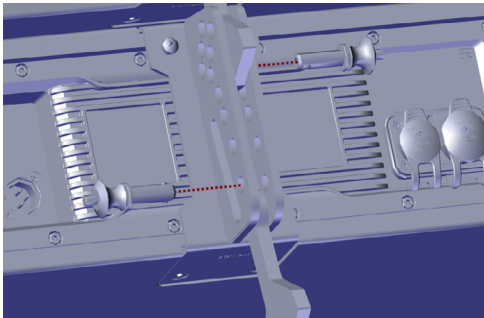

Figure 19b
- Using pins on the second cabinet, pin the angle lock (Figure 19b).